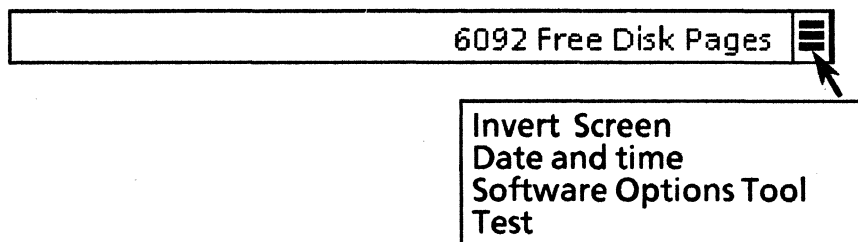

Figure 5-1 Desktop auxiliary menu
1. Select [Test] in the desktop auxiliary menu (Figure 5-1). The Online Diagnostics menu is displayed.